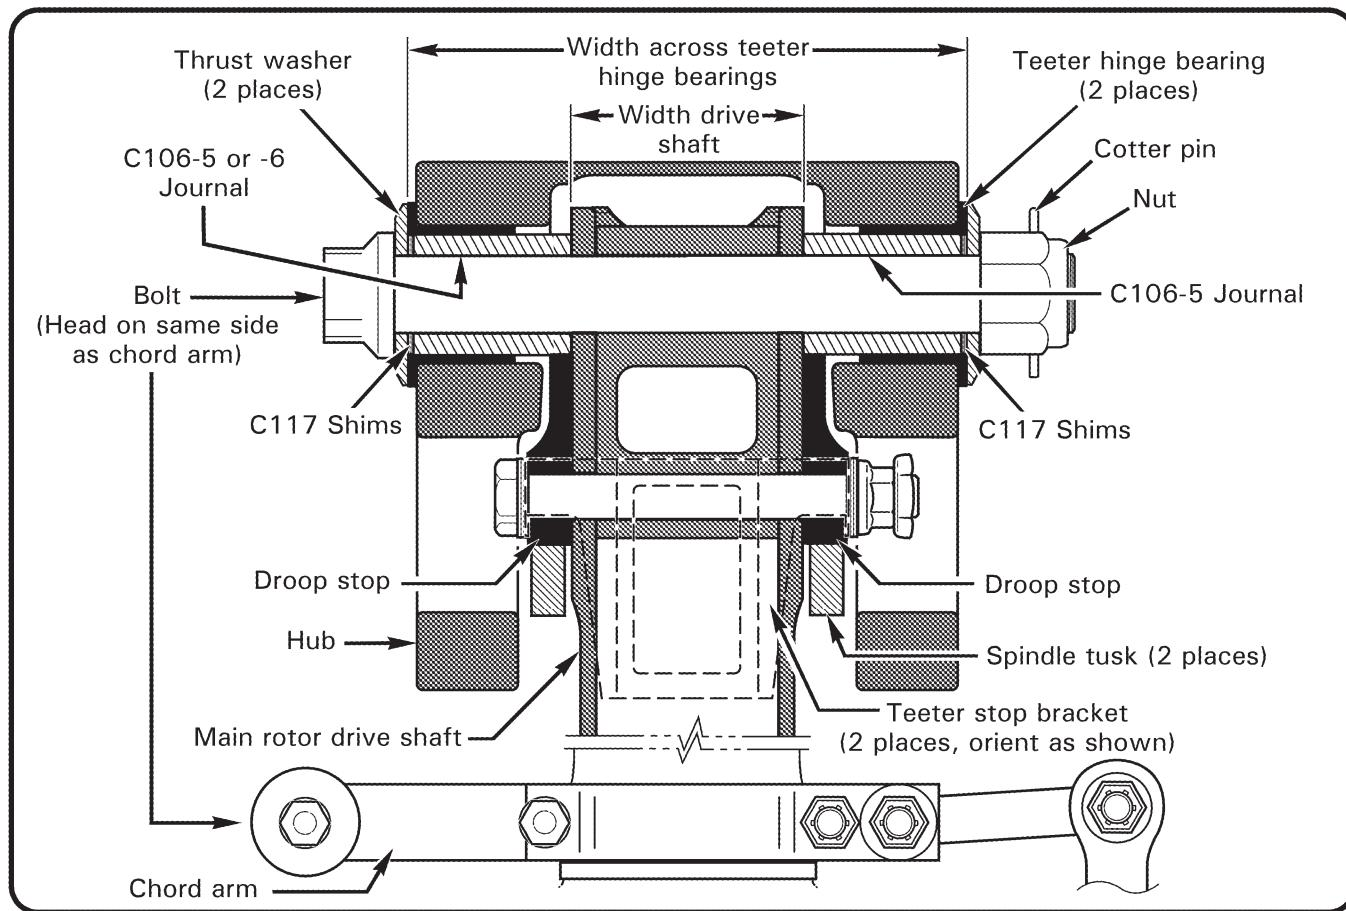

FIGURE 9-5 TEETER HINGE (HUB INSTALLATION)
2. Refer to Figure 9-5. Mark rotor hub using a grease pencil, tape, or soft marker as follows:
3. Refer to Figure 9-5. Line up mark on hub with chord arm on drive shaft. Install teeter hinge bolt, thrust washers, shims, and journals (if previous installation information is available, install parts exactly as removed).
Refer to Table 9-1 and Figures 9-5 and 9-6.
2. Refer to Figure 9-5 and Table 9-1. Remove cotter pin, nut, thrust washer, and nut-side C117 shims. Adjust teeter hinge friction by changing nut-side shim stack thickness in small increments; reducing shim stack thickness increases friction, increasing shim stack thickness reduces friction. Install shims, thrust washer, and nut.